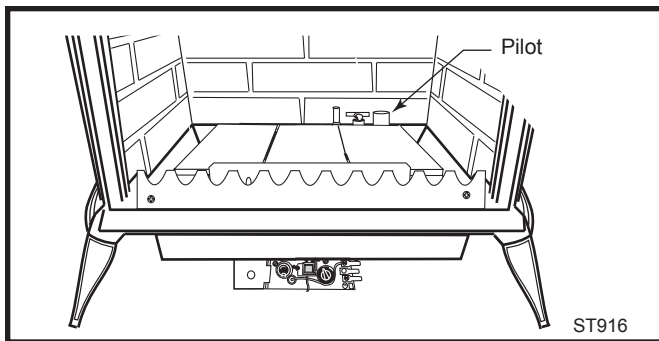

**Fig. 66** Depress and turn center plunger.
- Remove motor top cap using a standard slotted screwdriver. Depress and turn center plunger until arrow points to correct screw. Red for LP and Blue for NG. **NOTE:** Plunger will “snap” into NG position when arrow is close to blue screw. It will not “snap” at LP (Red) position. (Fig. 66)